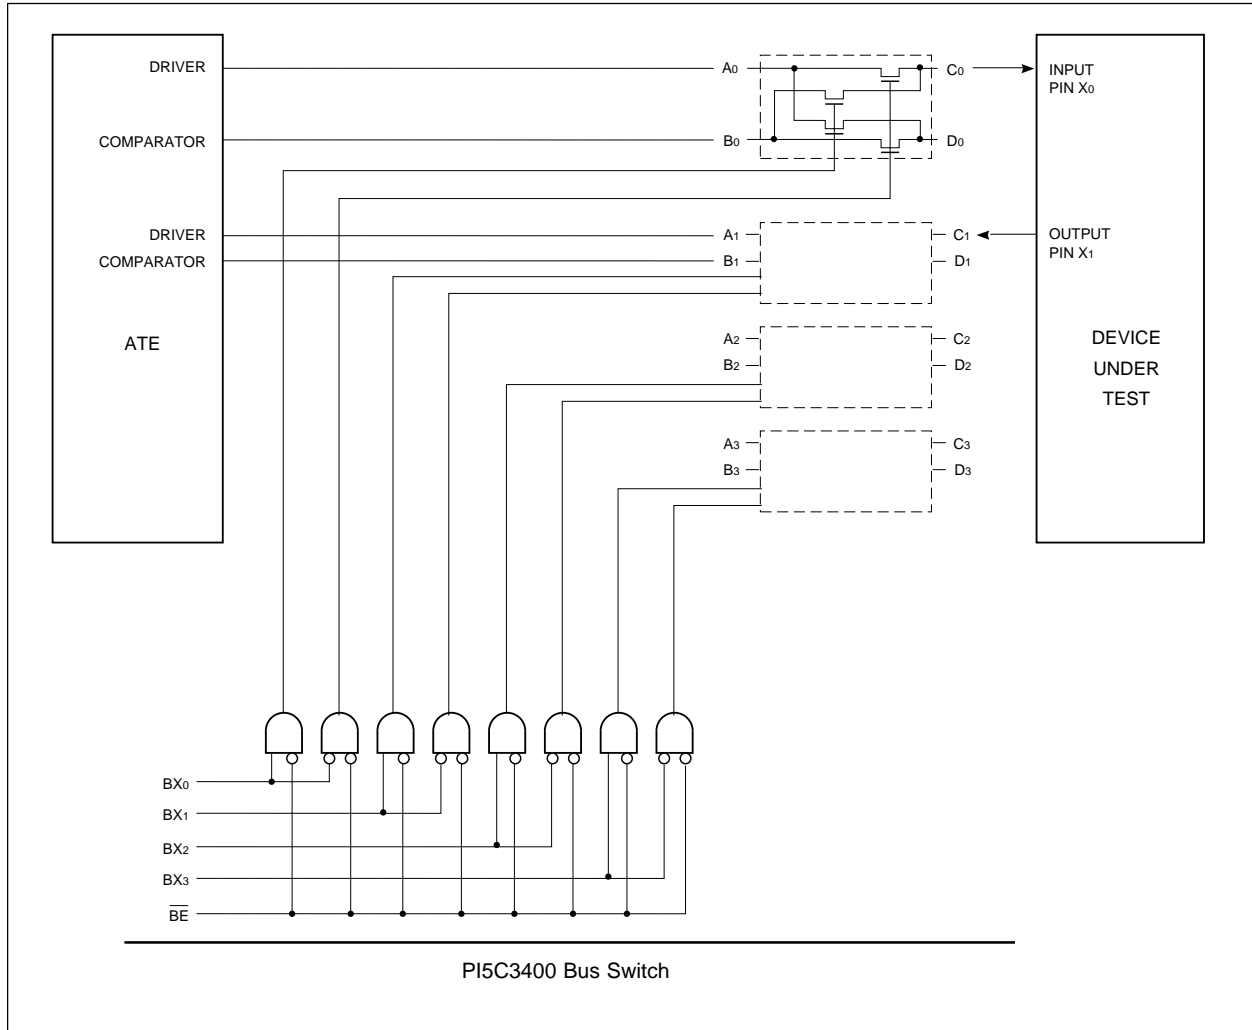

Figure 20. Test Pin Selection Under Individual Control.
- ATE Test Pin Function Selection:** Using Pericom's PI5C3400, each test pin can be programmed individually for different test functions. Figure 20 shows that a pin of a Device Under Test may be input or output. The PI5C3400 provides an individual control pin BXi. When BX0 is LOW, A0 and C0 are connected so driver of ATE drives the input pin X0 Device Under Test. Similarly, if BX1 is programmed HIGH, B1 is connected to C1 so comparator of ATE can test output pin X1 Device Under Test.